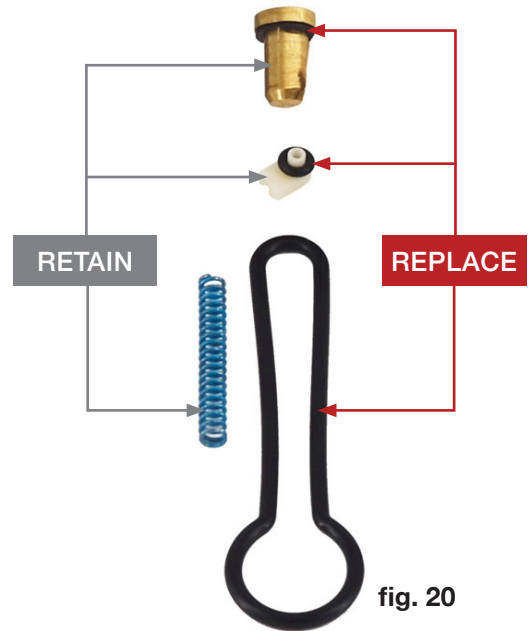
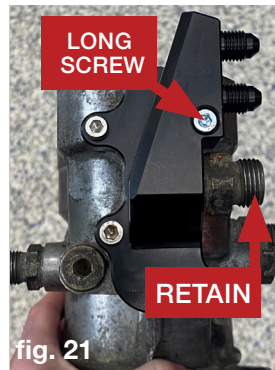

fig. 20
fig. 21
- 1B** Remove fuel pressure regulator body from filter housing by removing 4x Torx bolts. Retain the fuel spring, internal brass tappet, and return line adapter for re-use. **(fig. 20, fig. 21)**
- 2B** Install regulator body o-ring, replace tappet seal, replace air purge o-ring, and fit FRx regulator body over fuel spring and against filter housing body. Install 4x included mounting screws. Note that the longer screw should be installed in the countersunk hole at the upper right of the FRx regulator body. Snug screws. **(fig. 21)**